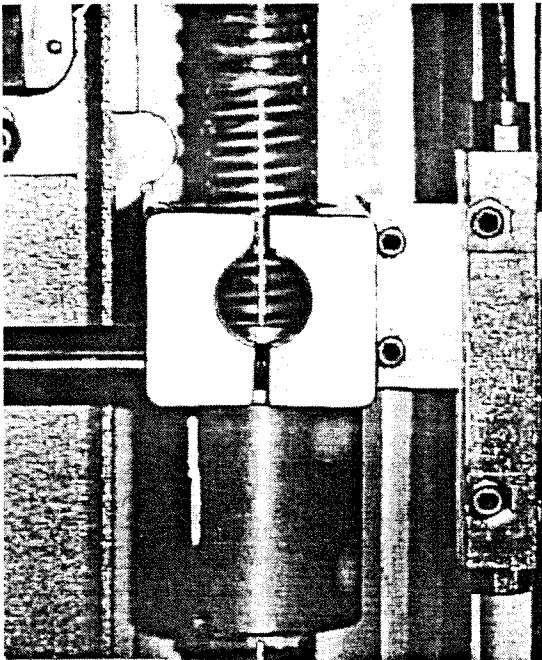

Figure 10
48. Tighten the (2) 6-32 x 1" SHCS.
49. Fasten the reader head to the reader head bracket using the (2) 6-32 x 5/8" SHCS supplied. **See Figure 10.**